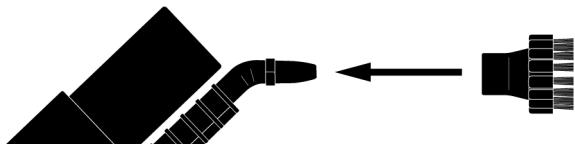

FIGURE 4
1. Slide Nylon Utility Brush onto Steam Jet Nozzle as shown (FIGURE 4). Firmly press it on until it fits securely in place.